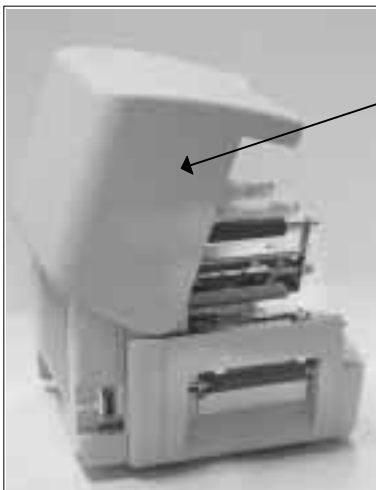

Fig. 7-1
2.	Raise and remove the top cover. Fig. 7-1